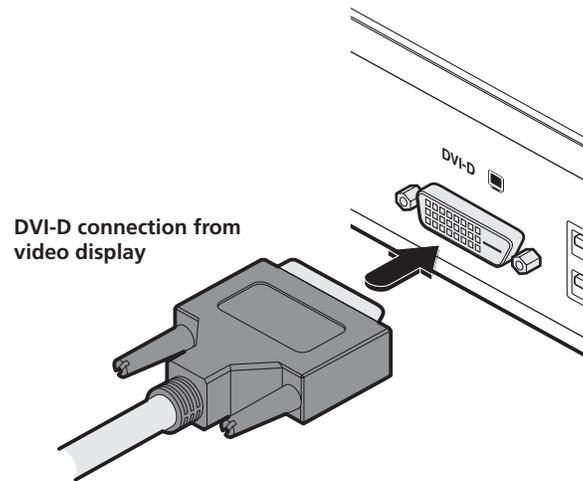

Figure 3-10. Connect the digital video link cable to the DVI-D socket.
- 1 Connect the lead from the video display to the DVI-D socket on the rear panel of the ServSwitch Agility unit. See Figure 3-10.